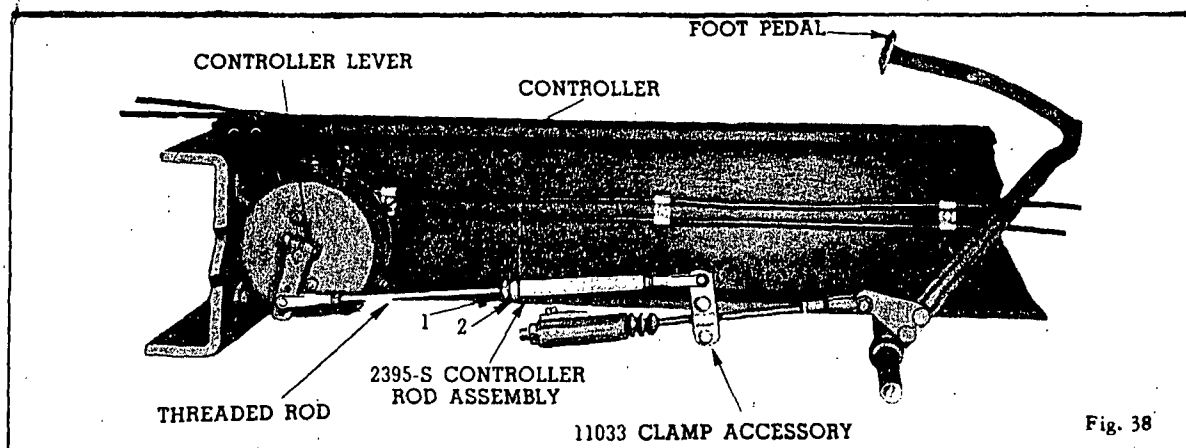

Fig. 38
4. Attach the "clamp accessory" to the controller rod assembly and tractor brake rod as shown in Fig. 38. Leave clamp accessory nuts loose.
5. Place the controller lever on the serrated shaft as shown in Fig. 38.
1. Loosen lock nut No. 2 (Fig. 38)